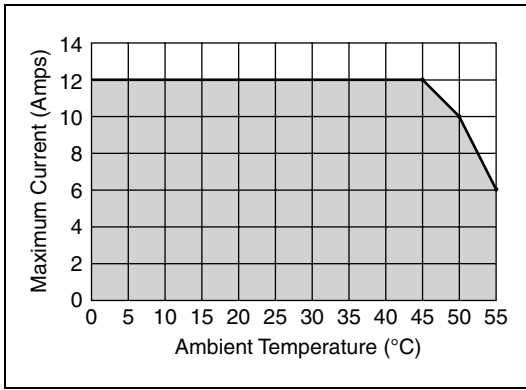

Figure 2. Maximum Current for Ambient Temperatures
- Ambient temperature >45 °C Refer to Figure 2